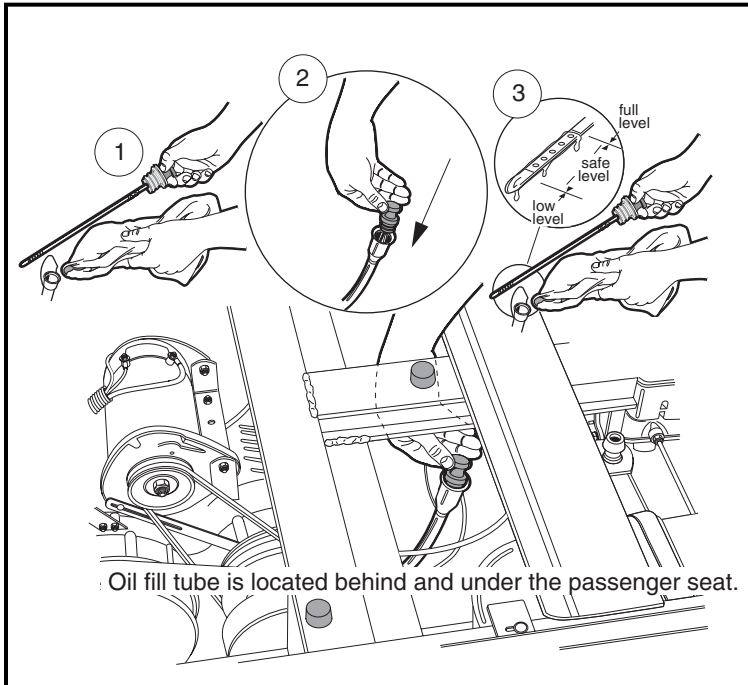

Figure 15 Oil Level
1. Remove the oil level dipstick from the oil filler tube and wipe oil from stick (**Figure 15**). See following **CAUTION**.